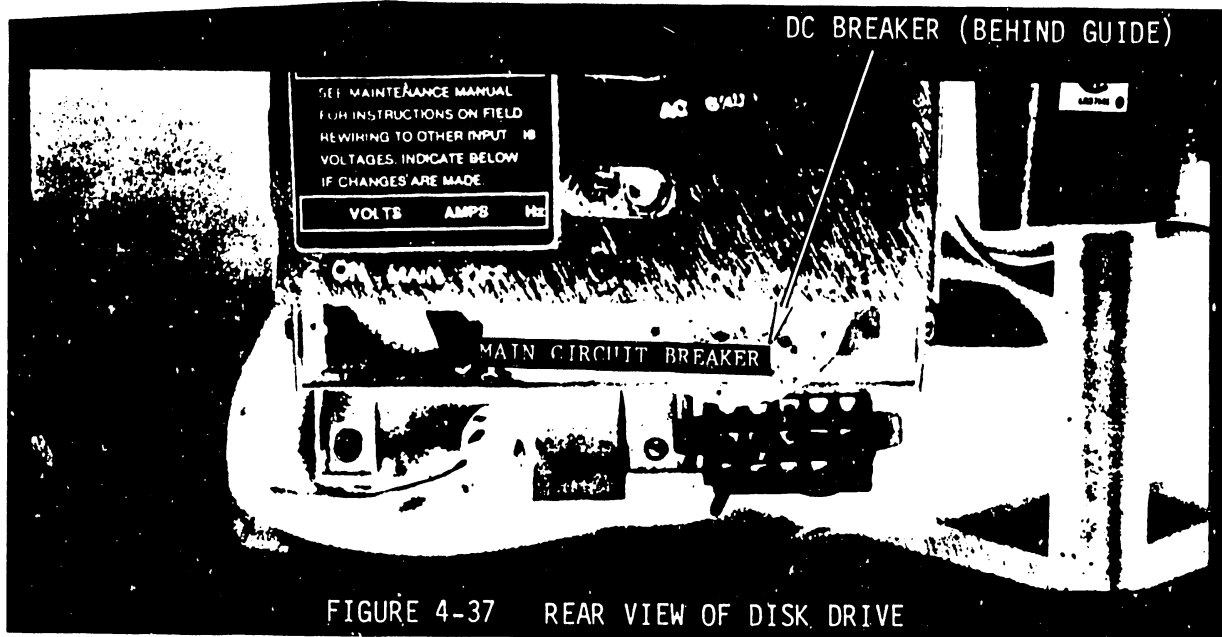

FIGURE 4-37 REAR VIEW OF DISK DRIVE
- A. Check that the AC breaker, located at the rear of disk drive, is in the "OFF" position (Figure 4-37).
- D. Check that the DC power breaker is in the "ON" position (Figure 4-37).